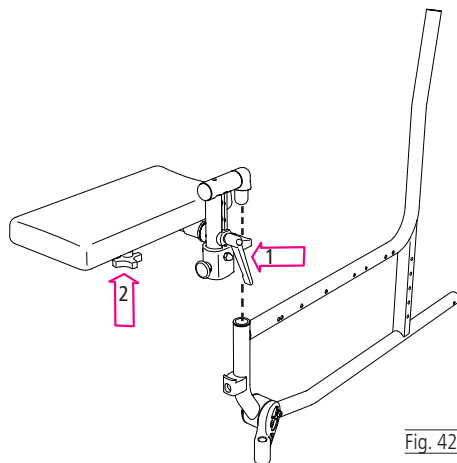

Fig. 42
1. Release the clamping lever (1, Fig. 42).
3. Finally, tighten the clamping lever again (1, Fig. 42).
1. Loosen the star grip screw (2, Fig. 42).